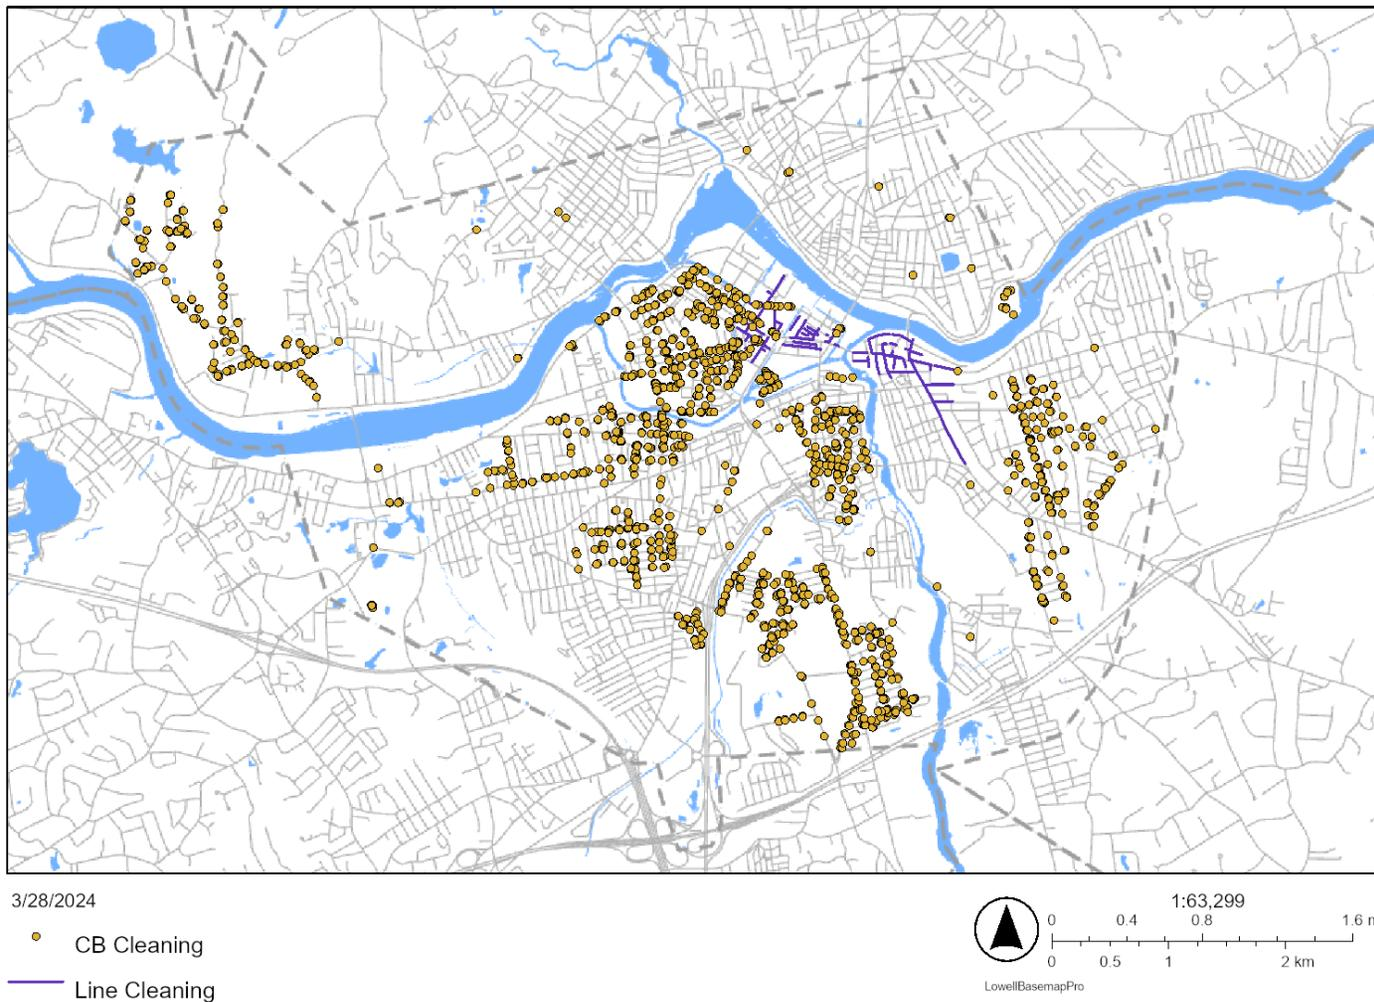
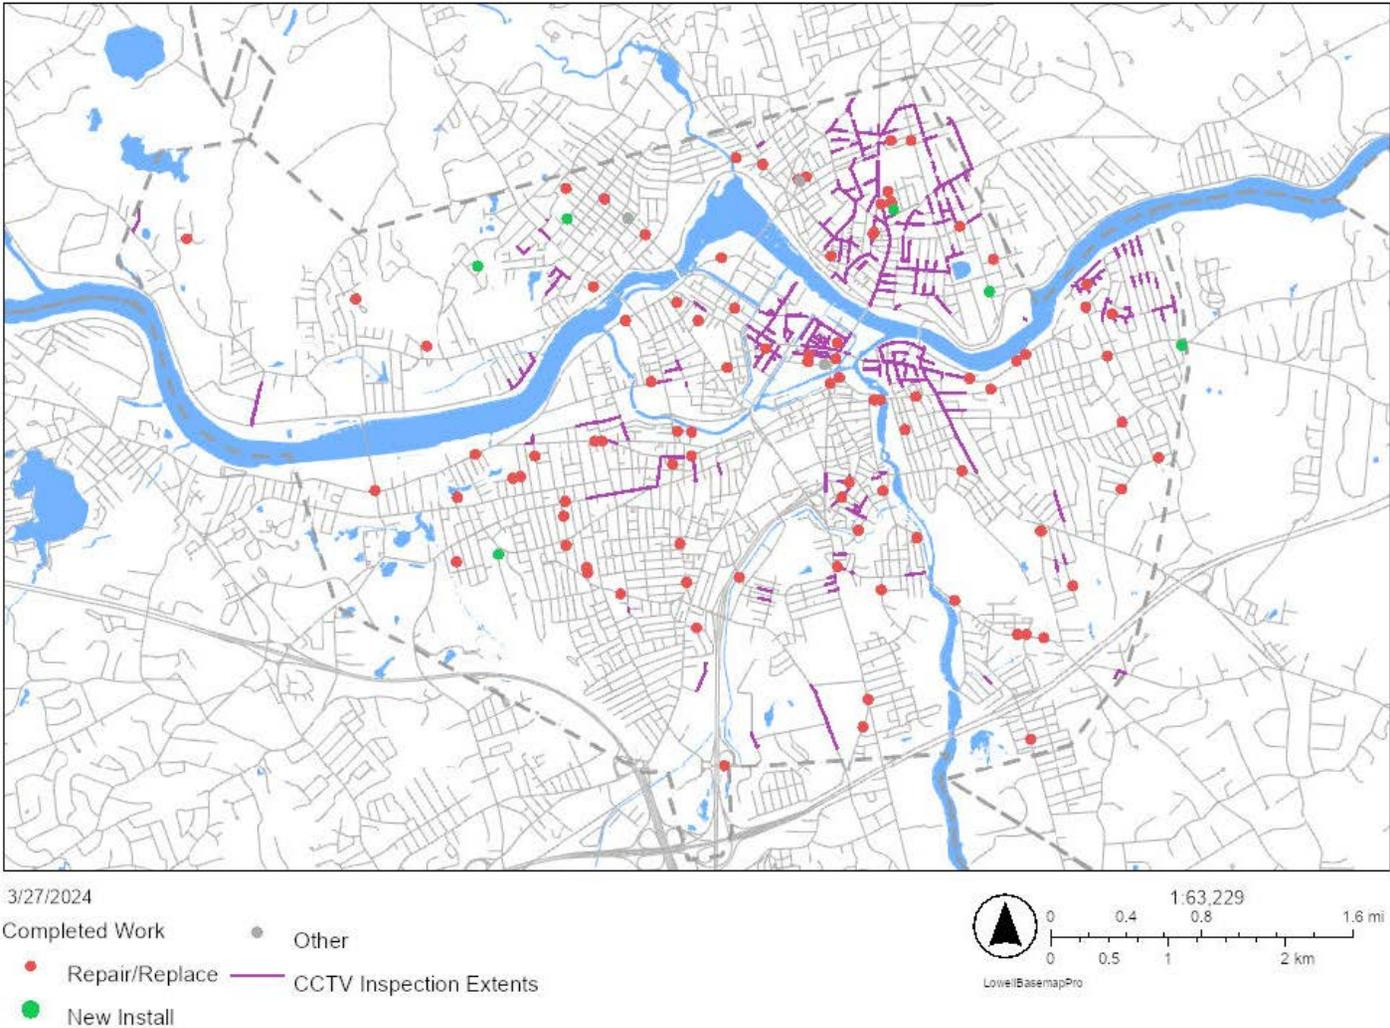

Figure 4. 2023 Collection System Cleaning Summary
Figure 5. 2023 Maintenance and Inspection Summary
- Figure 5. 2023 Maintenance and Inspection Summary 12
The Utility utilizes ESRI's ArcGIS Online applications, namely Collector and Survey123 to document CMOM related repair and cleaning activities in real time. Figure 4 and Figure 5 present maps of collection system sewer repairs, replacements, and cleaning activities undertaken in 2023. These projects include: 804 feet of new sewer pipe installed; repair and replacement of 64 catch basins; repair and replacement of 28 manholes. Also included in this total are 1,656 sewer and drainage system catch-basins cleaned; and associated miscellaneous items like test pits, paving and sidewalk repairs. The Utility also performed inspection and cleaning of 1 of its 6 siphons.